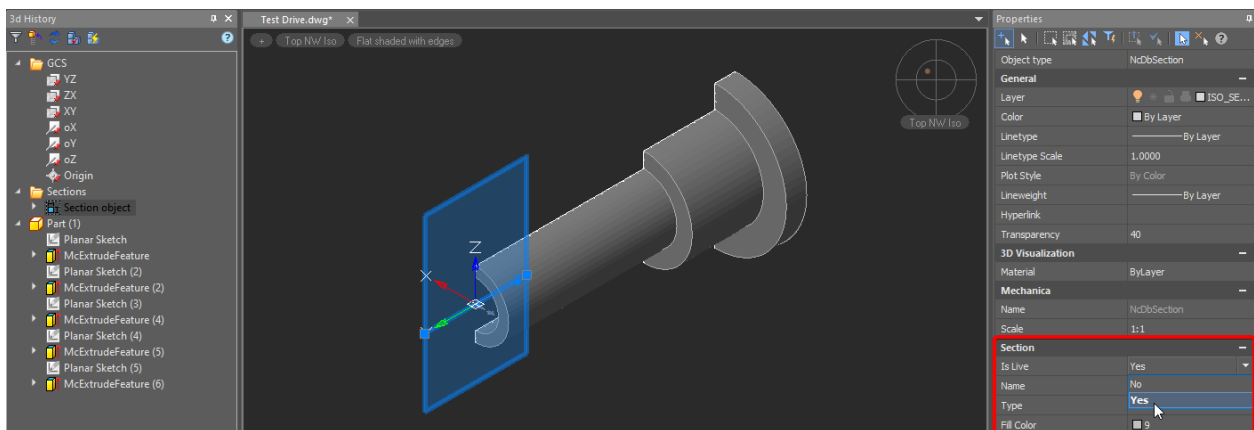

Fig. 14. Enabling the Is Live function
4.3. In **3D History**, or in the model space, select the **Section** and choose **YES** in the **Is Live** drop menu (Fig. 14).